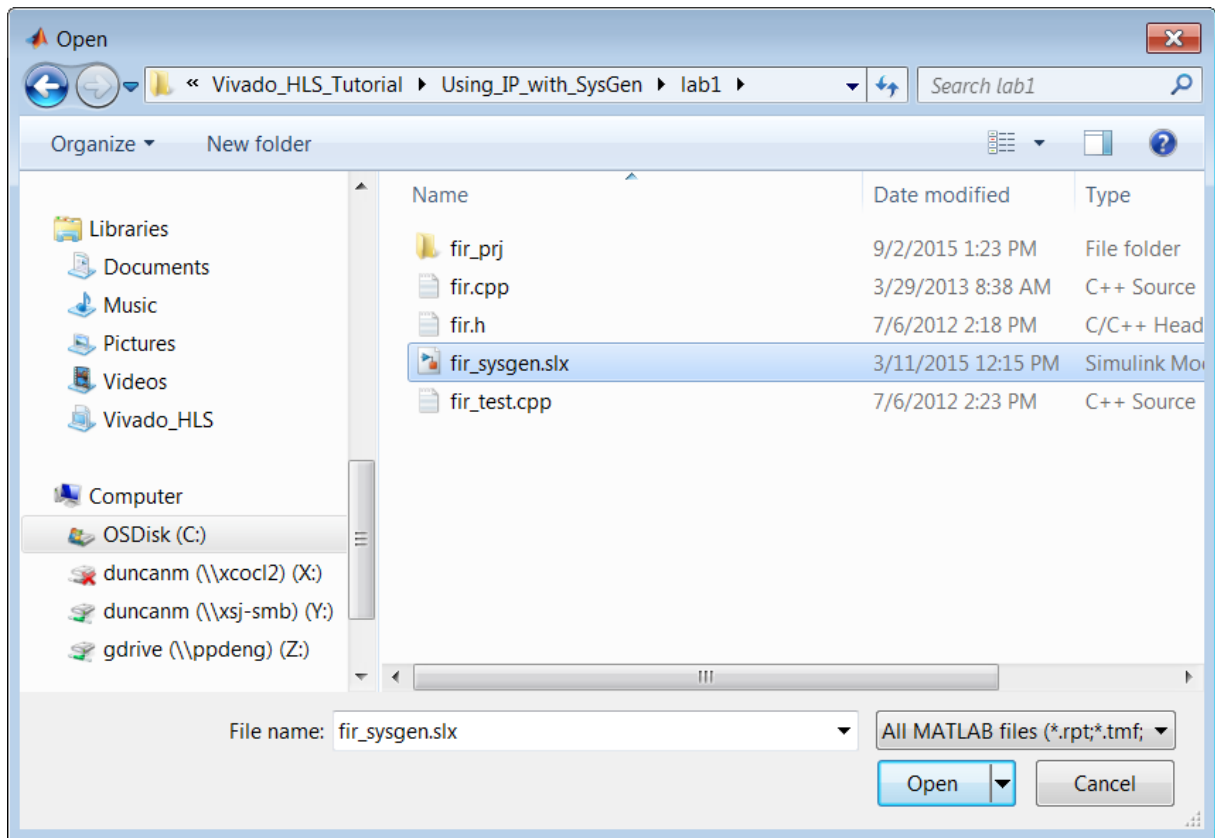

Figure 11-4: Select File `fir_sysgen.slx`
- Navigate to the tutorial directory `Vivado_HLS_Tutorial\Using_IP_with_SysGen\lab1` and select the file `fir_sysgen.slx`, as shown in Figure 11-4.